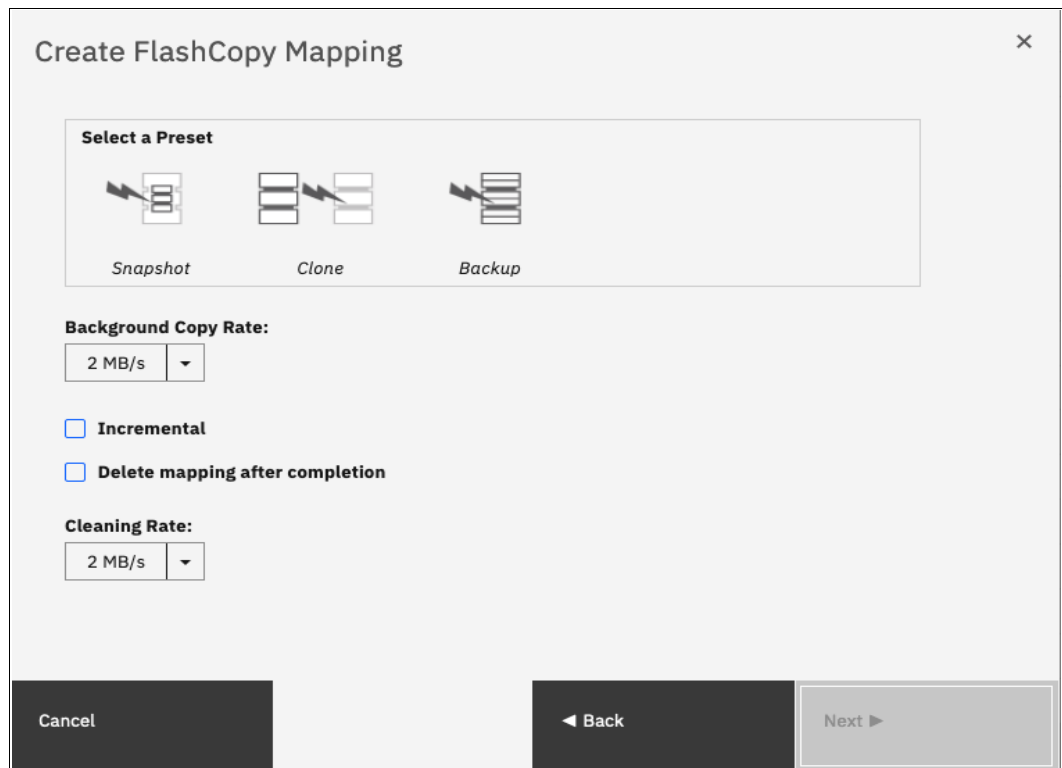

Figure 10-28 FlashCopy mapping preset selection
2. In the next window, select one FlashCopy preset. The GUI provides the following presets to simplify common FlashCopy operations, as shown in Figure 10-28.